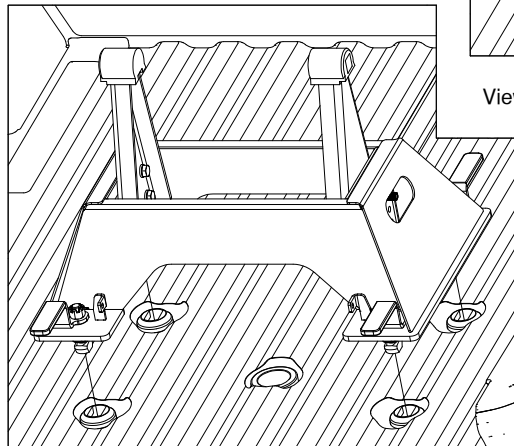

Figure C1: View of unlatched base.
- Place Base.** Remove the latch pins from each side of the base and rotate the handles out, see Figure C1. Place the base over the attachment points and carefully lower it until the latch cams pass through the floor and the base rests flat against the top of the attachment points.